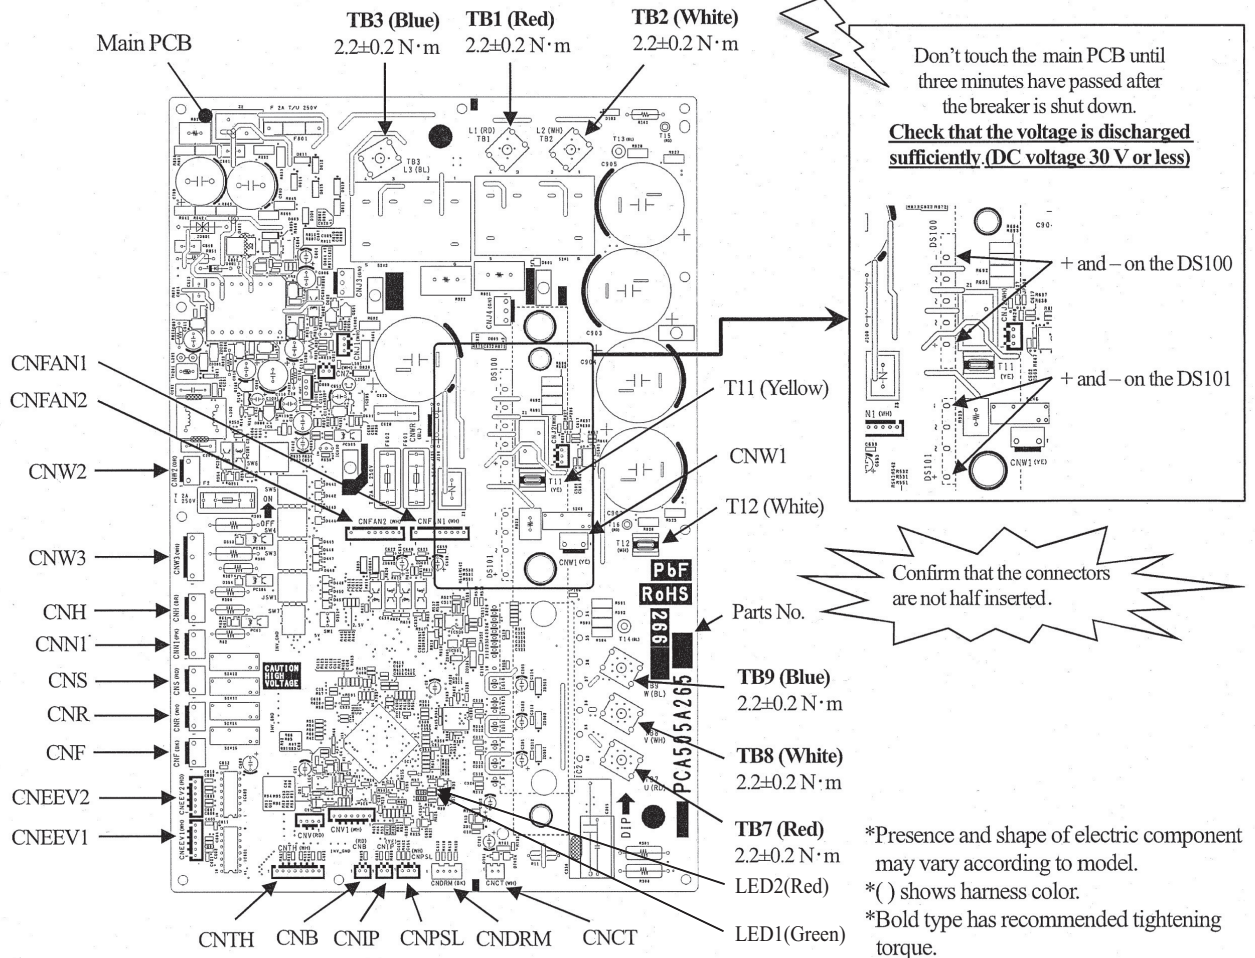

Fig.2 Parts arrangement view of main PCB and voltage measurement points
In the situation that harnesses are connected to main PCB, **be sure to measure voltage (DC)** on main PCB, and **check that the voltage is discharged sufficiently (DC voltage 30 V or less)**. (Refer to Fig.2)
- c) Disconnect the connectors, faston terminals and round terminals from the main PCB as shown in Fig.2.
- b) After the new main PCB is installed on the control, reconnect the connectors, faston terminals, and round terminals to the main PCB as before. (Refer to Fig.2)